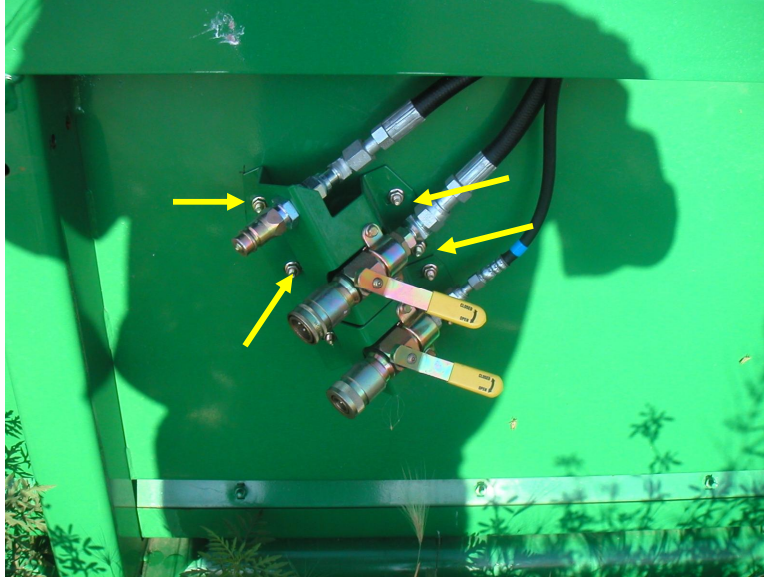

Figure 17
4. Mount Bracket (LAN – 128039) with 4 Carriage Bolts (*LAN – 03M7184) and 4 Lock Nuts (*LAN – 14M7298). (See Figure 17)